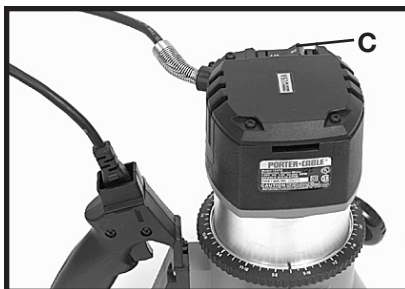

Fig. 4
5. Connect the motor unit cord to the outlet in handle as shown in Fig. 4.